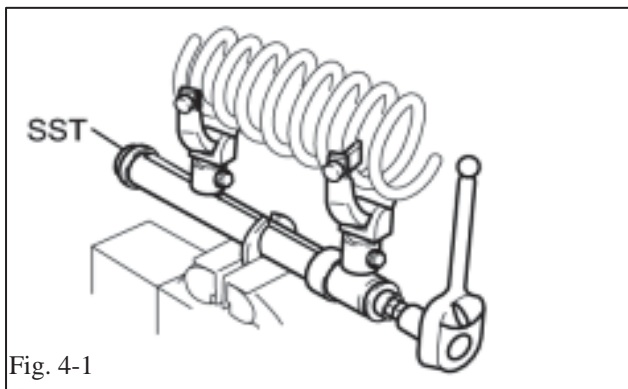

Fig. 4-1
- (a) Using the same spring compressor, install the TRD front coil spring. (Fig. 4-1)
- (1) Do not compress the coil spring more than necessary.
- (2) Do not use an impact wrench. It will damage SST.